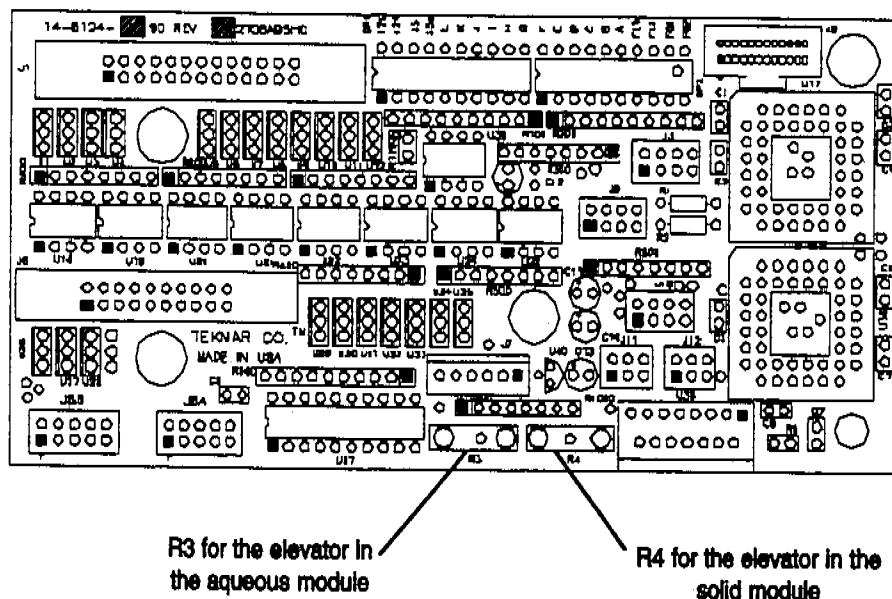

Figure 6-18 Locating R3 and R4
5. Carefully use needle nose pliers to pull the blown fuses out of R3 and R4 on the DC output board (Figure 6-18).